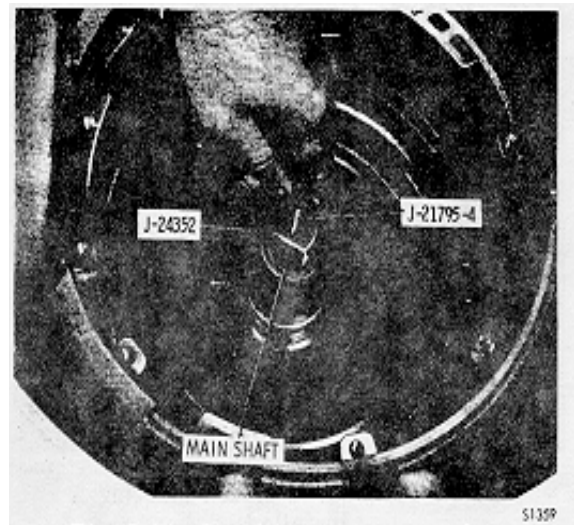

Fig. 7-14. Installing sun gear shaft of center support retainer
(1) Install the sun gear shaft retainer J-24352 onto the transmission main shaft (Fig. 7-14). Be sure retainer sleeve is seated on sun gear shaft while tightening thumb screw.
(1) Reposition the transmission, front upward. Carefully remove sun gear shaft retainer J-24352 (Fig. 7-14) without moving the sun gear shaft.